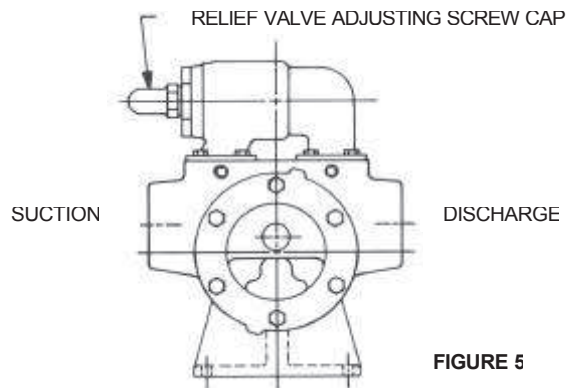

FIGURE 5
4. Relief valve adjusting screw cap must *always* point towards suction side of pump. If pump rotation is reversed, remove pressure relief valve and turn end for end. Refer to Figure 5.